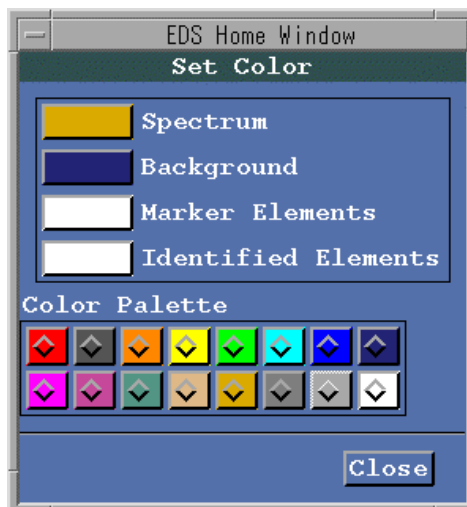

Fig. 41 Set Color window
- ◆ Click on the **Set Color** button in the Display Mode window. The Set Color window opens as shown in Fig. 41, allowing you to select colors for the front spectrum, background and other items from the 16 colors on **Color Palette**.